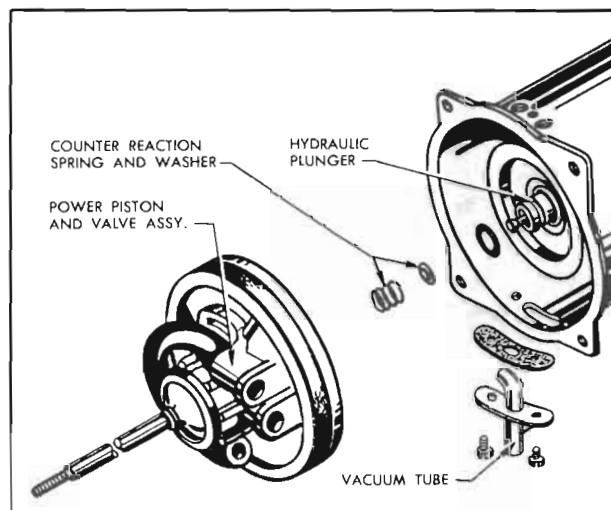

Figure 9-33—Removing Power Piston Assembly
5. Remove burrs from inside of vacuum cylinder at air cleaner and vacuum tube attaching screw holes. Then pull out power piston and valve assembly from cylinder. See figure 9-33.
19. Apply thin film of Dynaflow oil to inside of vacuum cylinder. Install counter reaction washer flat side first. Then install spring in recess at end of hydraulic plunger. See figure 9-33.